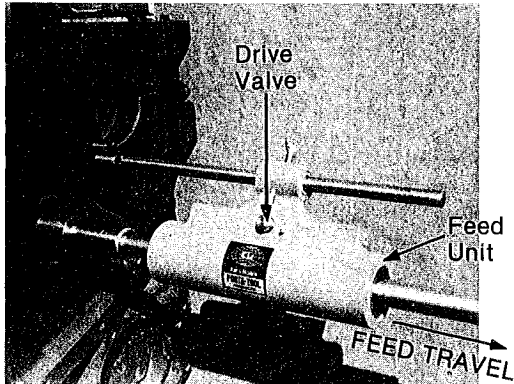

Fig 6 Feed Unit in position
1. Turn the drive valve on the Feed Unit to the "OPEN" position. Move the Feed Unit away from the block (fig 6).